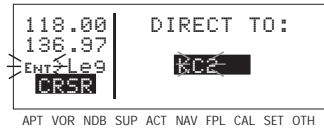

Figure 4-89
4. Rotate the right inner knob to select the second character of the identifier (figure 4-89).